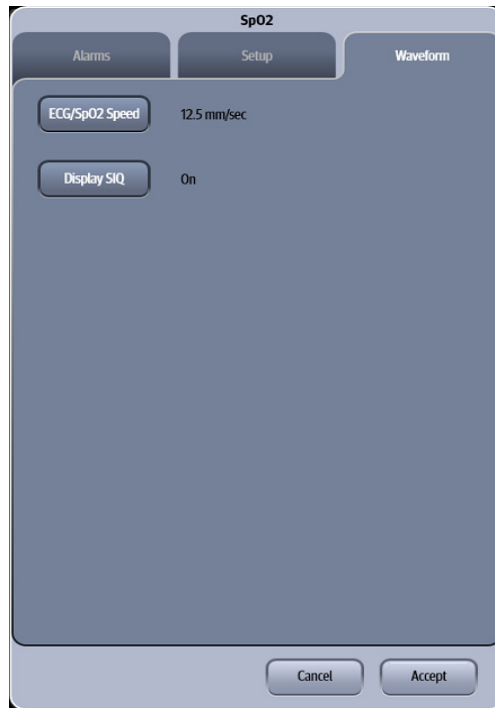

FIGURE 15-4 Example Nellcor SpO₂ Dialog (Waveform Tab)
2. Select the **Waveform** tab (as shown in FIGURE 15-4).